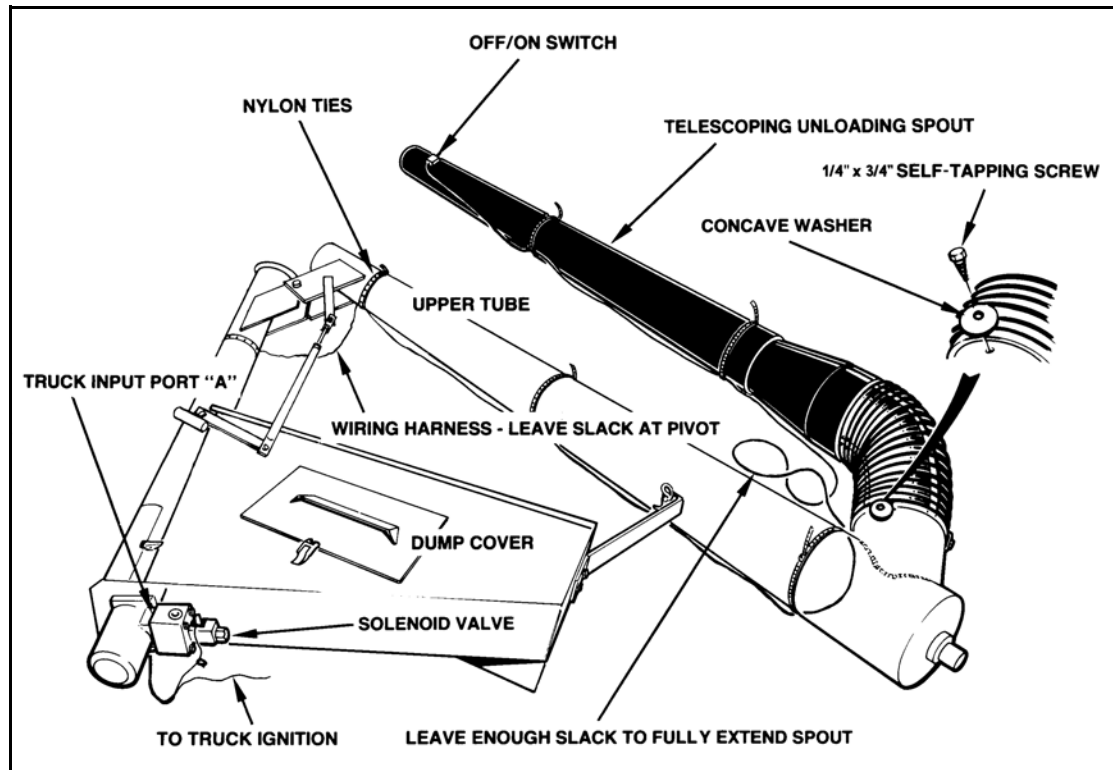

Figure 3.10 Switch
2. Leaving some slack at the solenoid, route the wiring harness up the back side of hopper and tube sections, outside the pivot brackets. Secure with 7 nylon ties (Figure 3.10).
3. Mount OFF/ON switch to the pre-drilled holes near the telescopic unload spout handle with two 1/4" x 1/2" bolts and whiznuts (Figure 3.10).
4. Secure the wiring harness to telescopic unload spout with nylon ties (Figure 3.10).